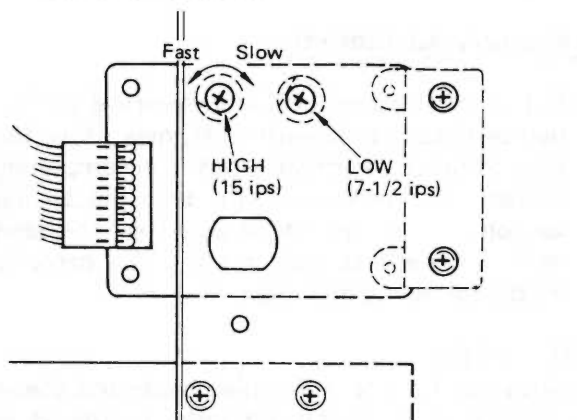

Fig. 2-7.
3. Play the middle of the test tape at high speed 15 ips (38 cm/sec) and adjust the HIGH speed trimmer resistor until the frequency counter indicates a reading of 3000 Hz. Use the LOW speed trimmer resistor for low speed adjustment 7-1/2 ips (19 cm/sec). See Fig. 2-7. (CAUTION: Use an insulated screwdriver to prevent shorting.)